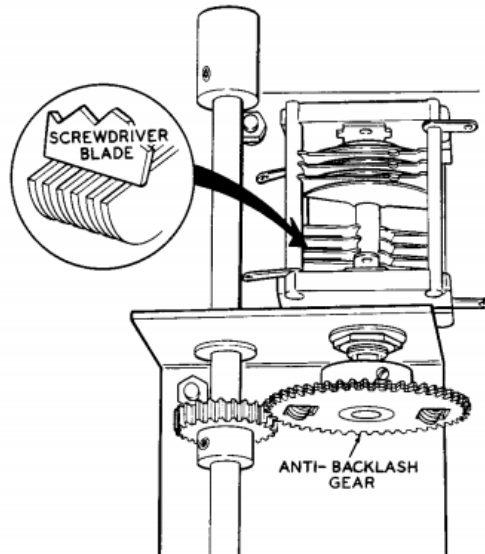

Figure 5
- (✓) Loosen the setscrew in the small brass gear of the variable capacitor assembly. Refer to Figure 5.
- (✓) While holding the FREQUENCY knob at the lower mechanical limit, turn the anti-backlash gear by hand until the plates of the variable capacitor are meshed. The plates are properly meshed when the edges are flush at the point shown in Figure 5. The end of a screwdriver blade can be used to check for proper mesh at this point. Retighten the setscrew in the small brass gear.